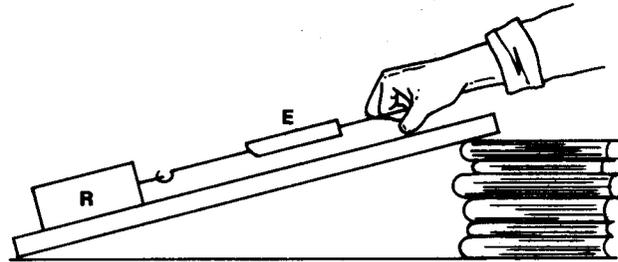

Figure 6-31
5. Move the resistance force (R) to the 3-in. position on the ruler. Complete the second column in Table 6-6.
6. Set up the inclined plane using a height of six books as in Fig. 6-31.